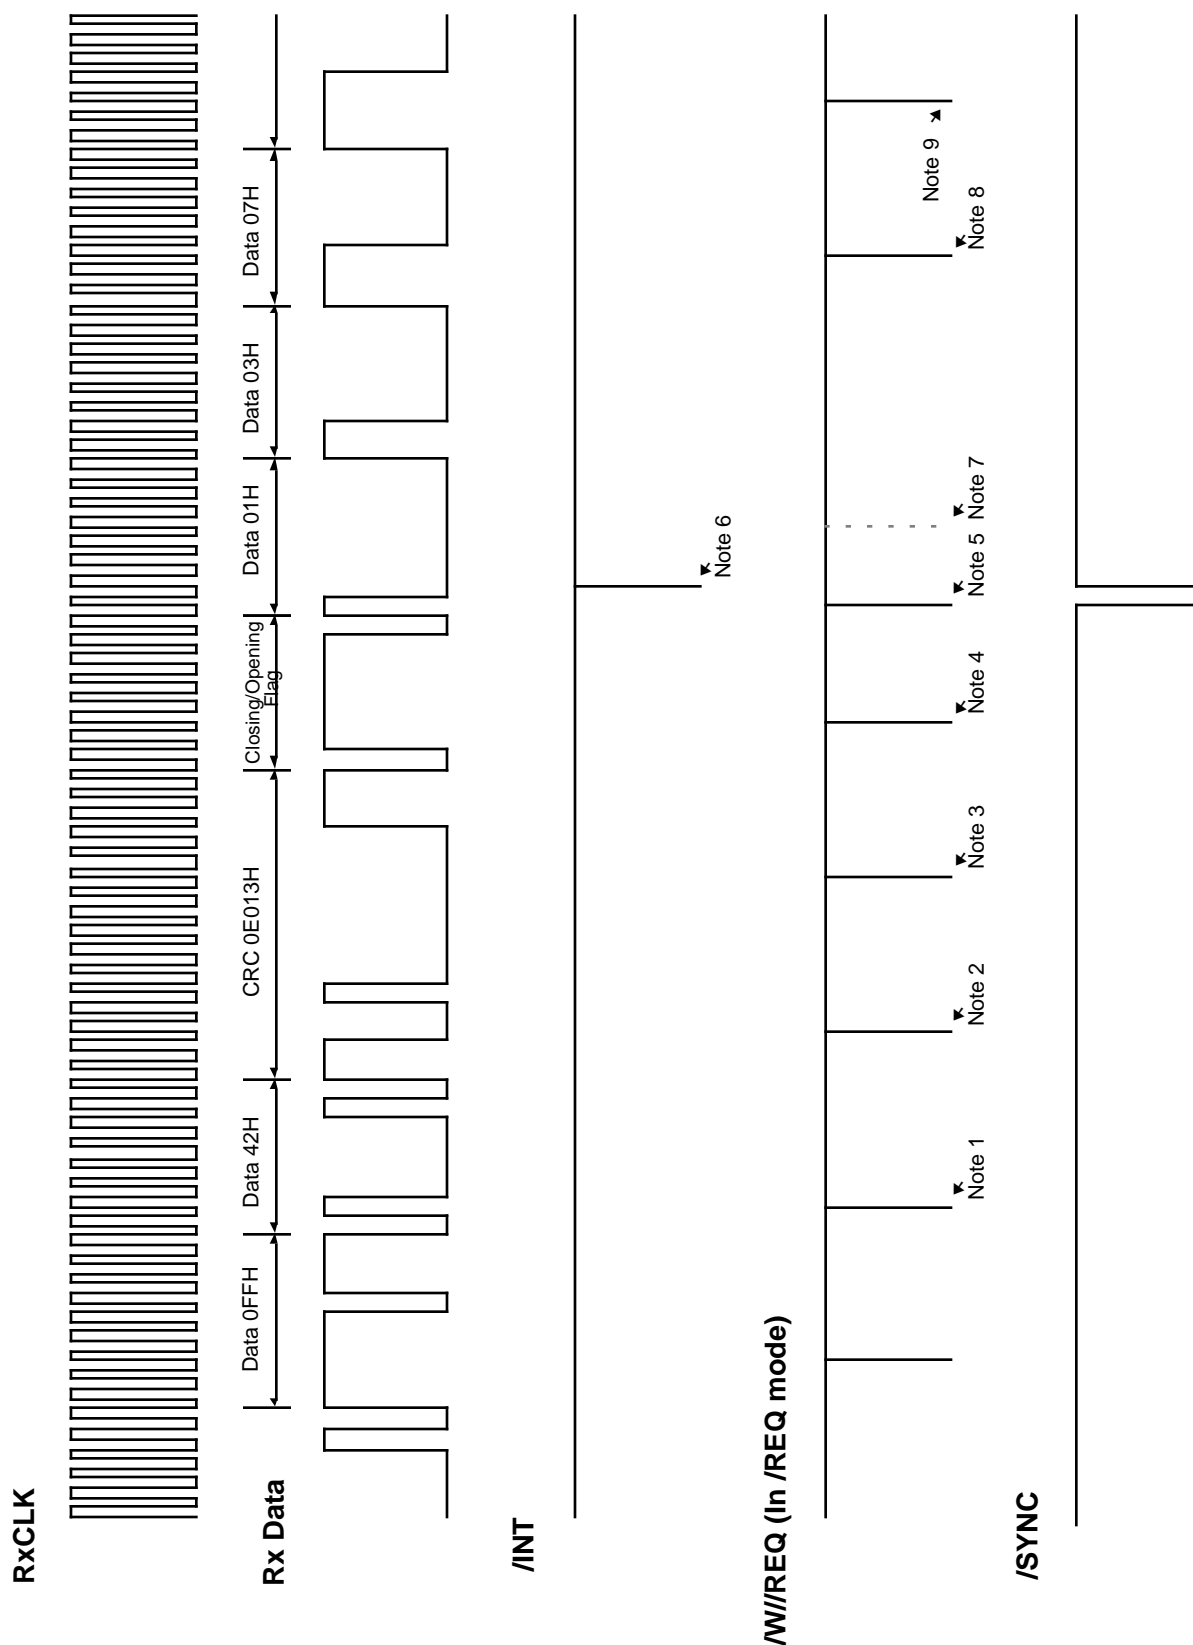

Figure 4. Receiving "Back to Back" frame with Receive Interrupts on Special Condition Only Mode (DMA Controlled)
Assuming SCC is running under Receive Interrupts on Special Condition only mode (under DMA Control), a typical sequence of events is shown in Figure 4. It is identical to that used for “Receive Interrupts on Special Condition Only” mode, with the addition of another following packet.
**Notes on Figure 4:**